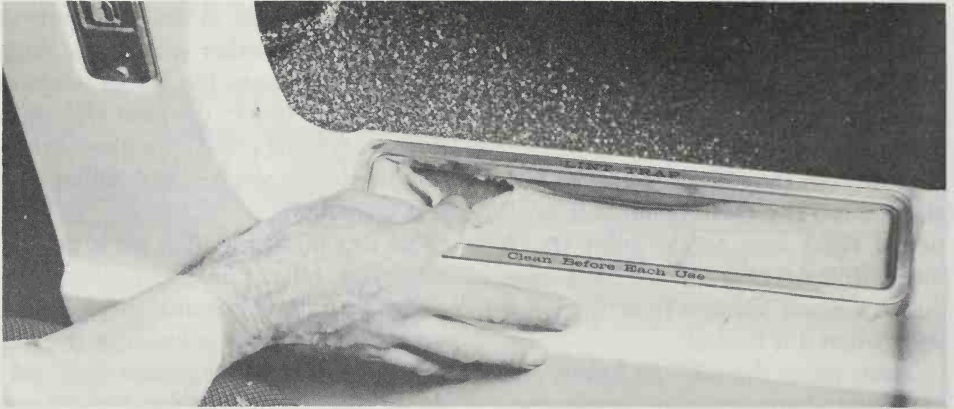

Figure 15. The most important maintenance function you can perform for clothes dryer is to clean the fuzz out of the lint trap after every load.
4. Probably the only maintenance your dryer needs is cleaning of the lint trap after every use (Figure 15). However, consult the instructions that came with the appliance to determine if the unit requires any other servicing.